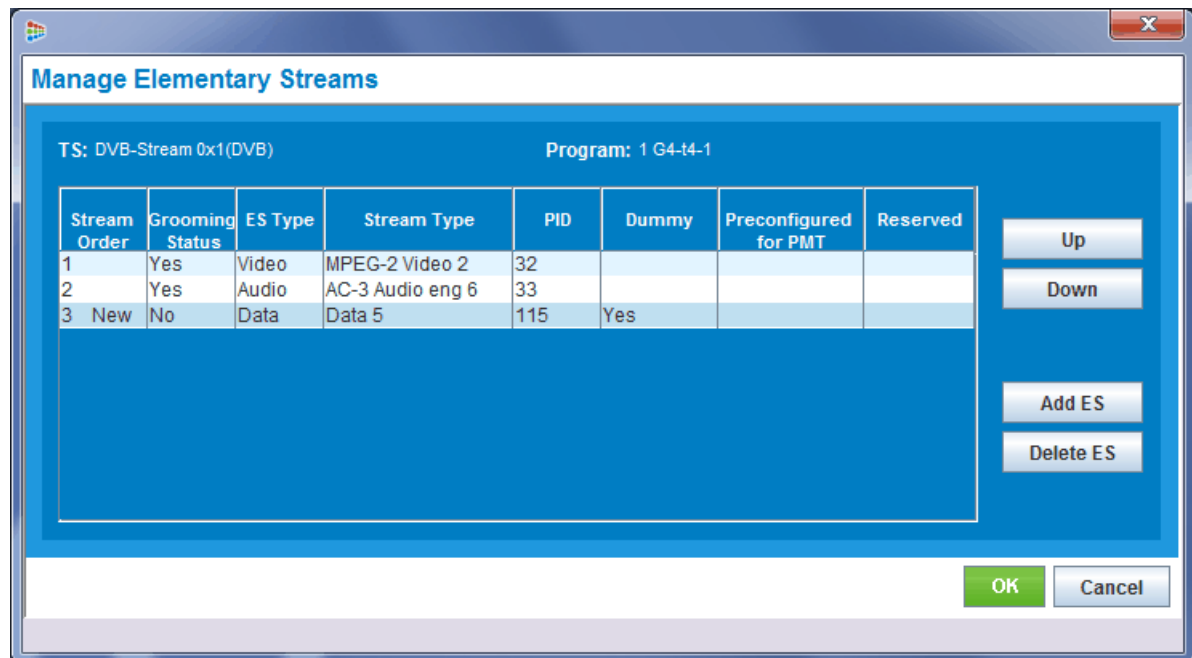

Figure 181. New ES filled In
4. Click **Add ES** and fill in the new row (Figure 181) as described in “Dummy PIDs” on page 187. You will need to know the PID reference, which, in this case, is 115. Be sure to select **Yes** in the **Dummy** column.